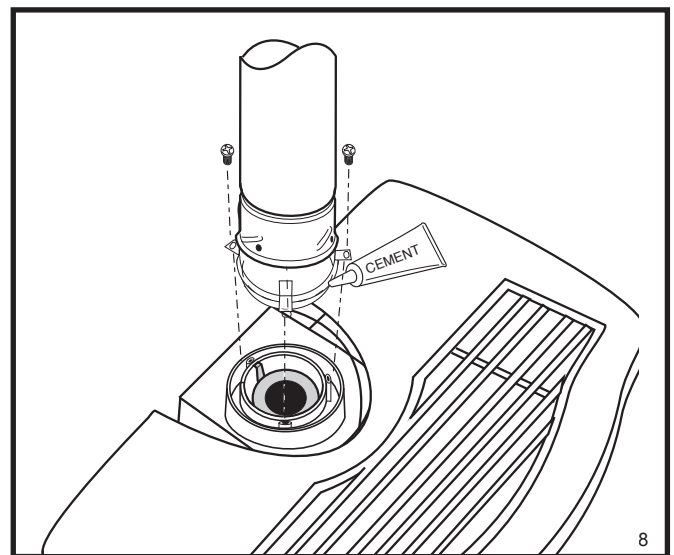

Fig. 20 Attach inner assembly to flue collar.
- Run a bead of sealant around the bottom end of the starter pipe and attach the assembly to the stove using three 1/4-20 x 3/8" Phillips screws provided in the parts bag. (Fig. 20)